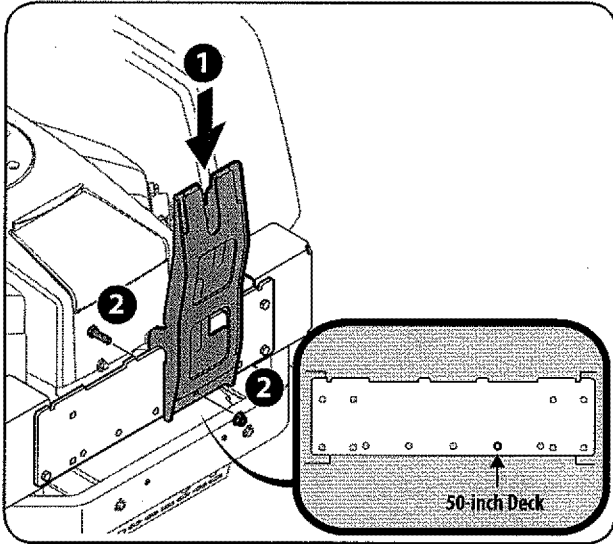

Figure 4-4
4. Install the upright support bracket onto the mounting assembly on the tractor by hooking it over the mounting assembly as shown in (1) Figure 4-4.
- Secure the upright support bracket to the mounting assembly in the mounting hole just right of the center hole, as indicated in , with a 710-0376 hex bolt and 712-04063 flange lock nut from hardware pack 689-00320. See (2) Figure 4-4